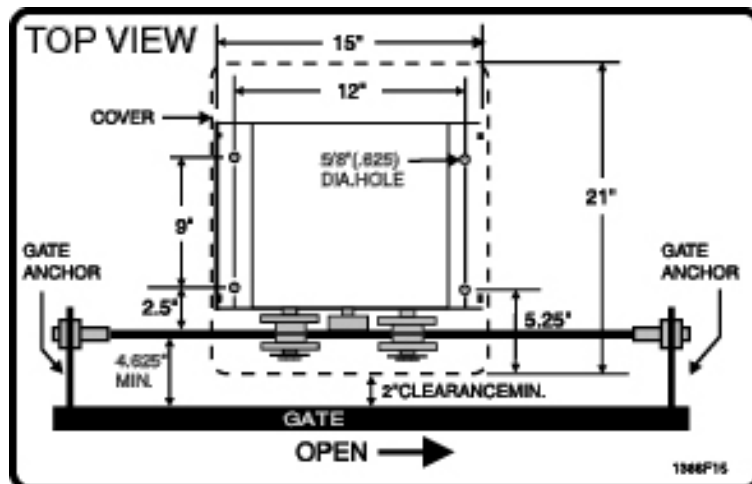

Figure 8. Mounting.
4. Mount gate operator on the cement pad using the previously installed anchors. Be sure the operator mounting is level and the chain face is parallel to gate movement (Figures 8 and 9).